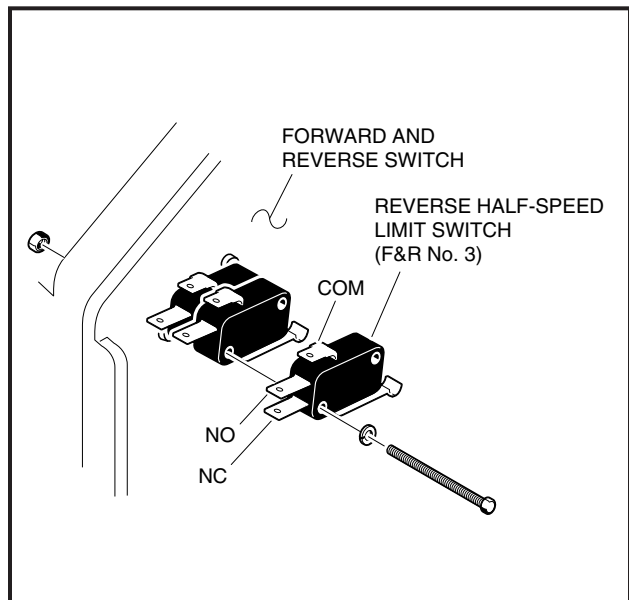

FIGURE 17-10
2. Using a continuity tester or VOM set to ohms, check continuity across common (COM) and normally open (NO); and across common (COM) and normally closed (NC) (**See Figure 17-10**).